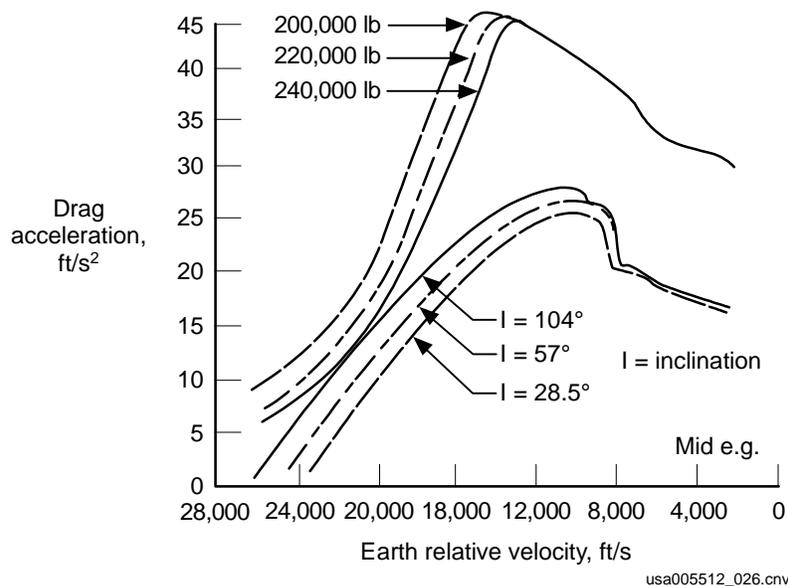

Figure 2-25. Effect of inclination and weight on the drag boundaries
- a. Based on the flight-specific high drag thermal boundary and backface temperature constraint, the nominal drag profile that will be flown through the high Mach portion of entry is determined. Figure 2-25 shows how vehicle weight and inclination affect the high and low drag boundaries.